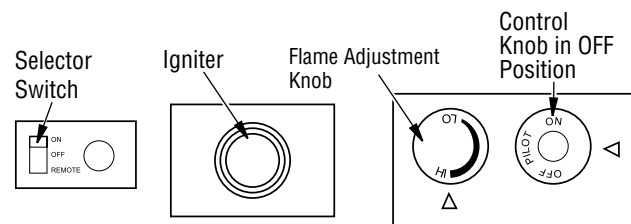

Figure 26 - Control Knob, Igniter Button and Remote Selector Switch
4. Press in and turn control knob clockwise to the OFF position (see **Figure 26**).
5. Wait five (5) minutes to clear out any gas. If you then smell gas, STOP! Follow "B" in the safety information in column 1. If you don't smell gas, go on the next step.
6. Press in and turn control knob counterclockwise to the PILOT position. Press in control knob for five (5) seconds (see **Figure 26**).
After lighting, let pilot flame burn for about one minute. Turn control knob to ON position. Adjust flame adjustment knob anywhere between HI and LO. Slide the selector switch to the REMOTE position (see **Figure 26**).